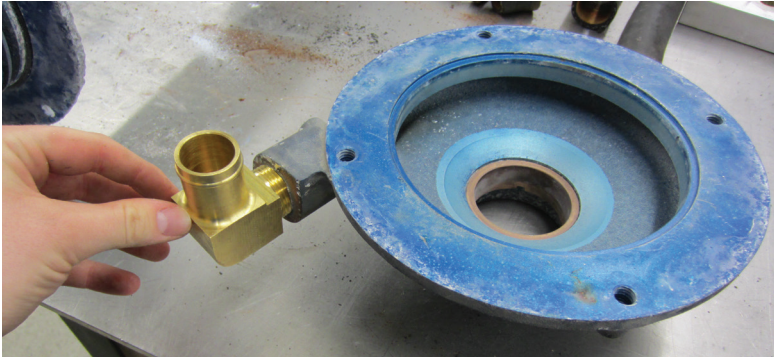

Figure 14
25. Install new 90° elbow fitting (35386AXW) in lower impeller housing, see Figure 14. Final tighten fitting to hand-tight plus 2-3 turns.